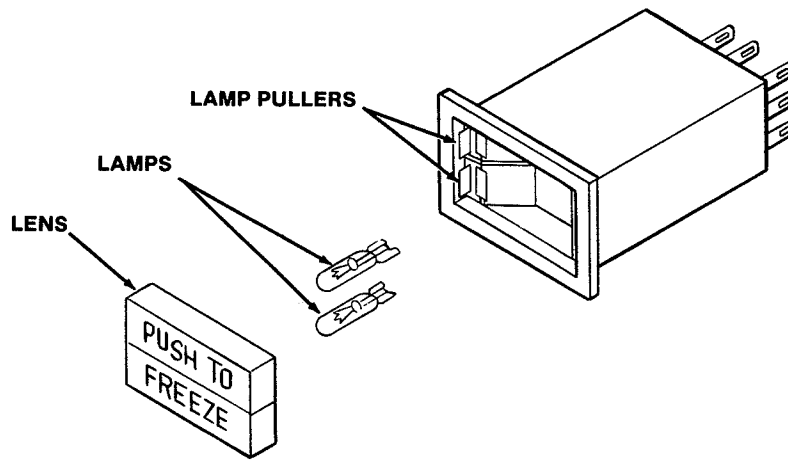

Figure 30. Push To Freeze Light/Switch Assembly
- B. Remove the faulty lamp by pulling out the lamp puller. (See Fig. 30.)